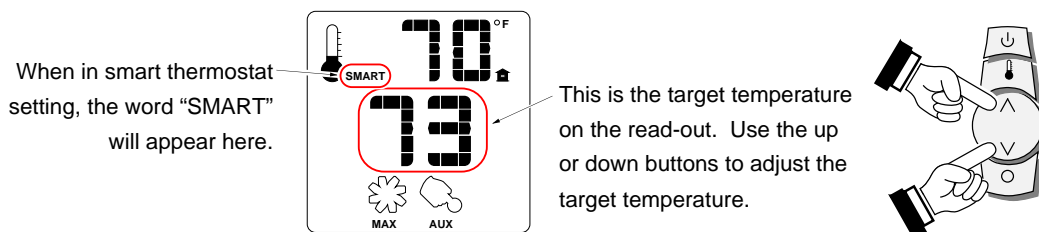

Figure 7
- SMART THERMOSTAT** – While in smart thermostat, the transmitter will control the burner to achieve the target temperature (see Figure 7 below). Flame height will be adjusted up or down to allow operation without turning the burner on and off (also called “smart modulation”). To adjust the target temperature, press the up and down buttons until a suitable temperature is achieved.